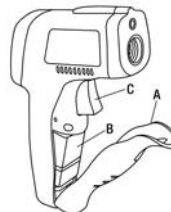

Figure 2
1. Open the battery door (A) Fig. 2 and connect then insert the supplied 9V battery (B).
2. Pull the trigger (C) to turn the unit on.